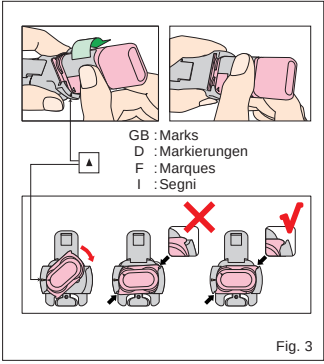

Fig. 3
b) Load the cartridge into the Paste Pak Dispenser. (Fig. 3)